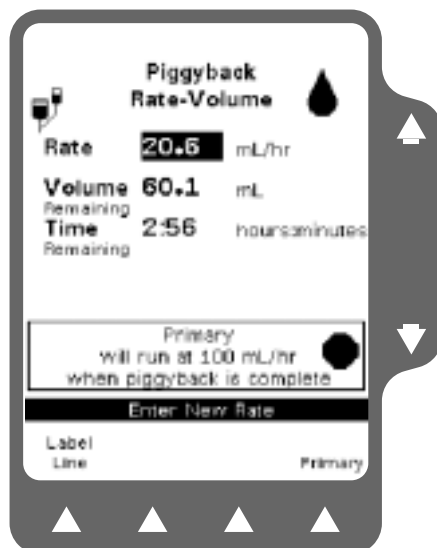

Figure 3-26 Enter New Rate
1. To change the primary or piggyback flow rate while infusing, press the **Rate** key. The Rate field is highlighted (Figure 3-26).